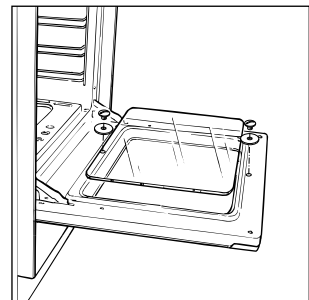

Fig. 26 Oven door glass
- The inner glass door panel can easily be removed for cleaning by unscrewing the two fixing screws (Fig. 26).